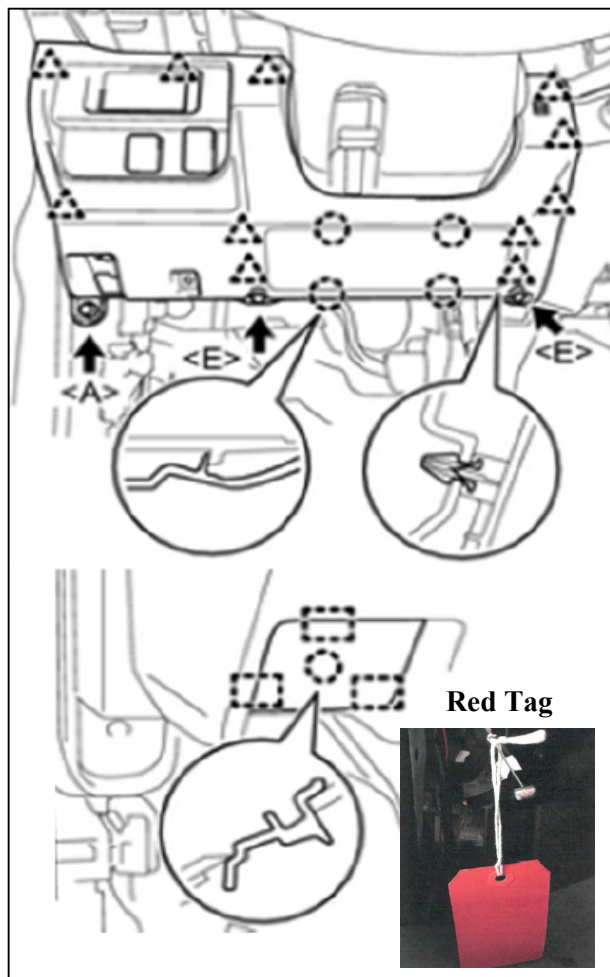

Figure 8
8. Remove the bolt <A>. Remove the 2 screws <E>. Disengage the 11 clips and 4 claws. Disconnect the connectors to remove the instrument panel lower finish panel sub-assembly. Disengage the claw and 3 guides to disconnect the hood lock control lever sub-assembly/Cable. See Figure 8.
Note: Place red hang tag on instrument panel sub-assembly OR hood release cable when removing hood latch cable from hood latch release lever. See Figure 8. Red Tag required for PIO only. Tag is not part of the kit contents.